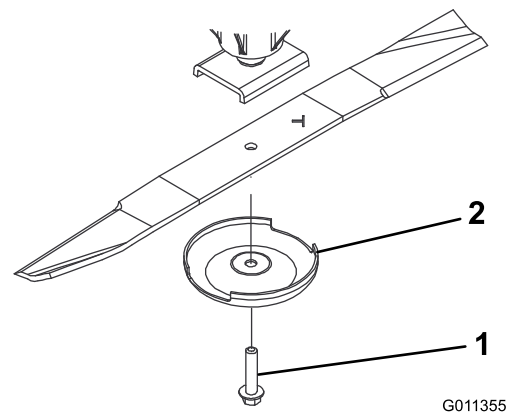

Figure 88
2. Grasp the end of the blade using a rag or thickly padded glove. Remove the blade bolt, anti-scalp cup, and blade from the spindle shaft (Figure 88).
3. Install the blade, sail facing toward the cutting deck, with the anti-scalp cup and blade bolt (Figure 88). Torque the blade bolt to 115 to 149 N-m (85 to 110 ft-lb).